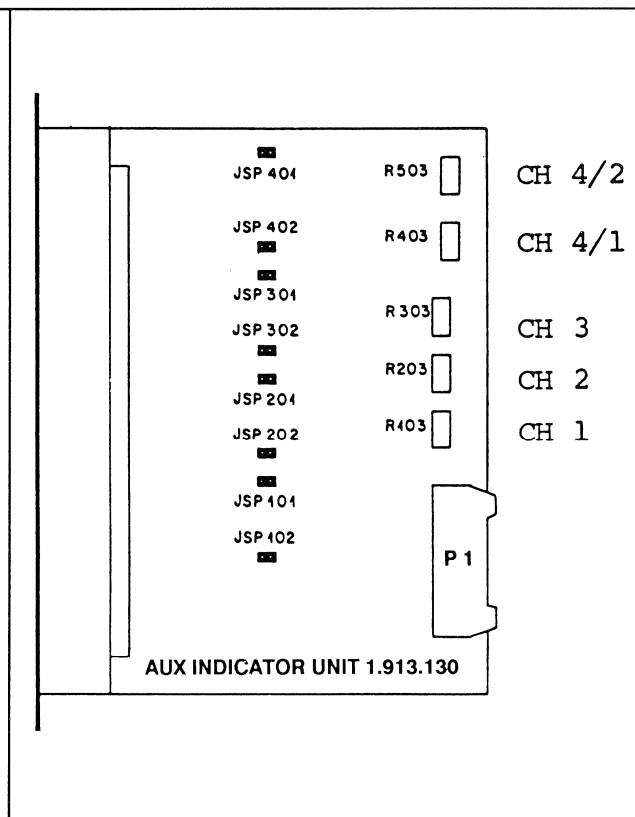

Fig. 23
This unit contains the four instruments of auxiliary outputs. The indication characteristic may be adapted to the main instruments. It is possible to choose between PPM or VU with jumpers. The jumper switches are named JSP (Fig.23).
Apply the test signal with **+4dBu** to the input of the instrument to be calibrated. Adjust for a reading of **0VU** with trimmer potentiometers **R103**, **R203** or **R303** (see fig. 23).
- Adjust the instrument with trimmer **R403** (see fig. 23) to **-3VU**.
- Adjust the instrument with trimmer **R503** (see fig. 23) to **-3VU**.
Apply the test signal with **line level** to the input of the instrument to be calibrated. Adjust for a reading of **0dB** with trimmer potentiometers **R103**, **R203** or **R303** (see fig. 23).
- Adjust the instrument with trimmer **R403** (see fig. 23) to **-3dB**.
- Adjust the instrument with trimmer **R503** (see fig. 23) to **-3dB**.